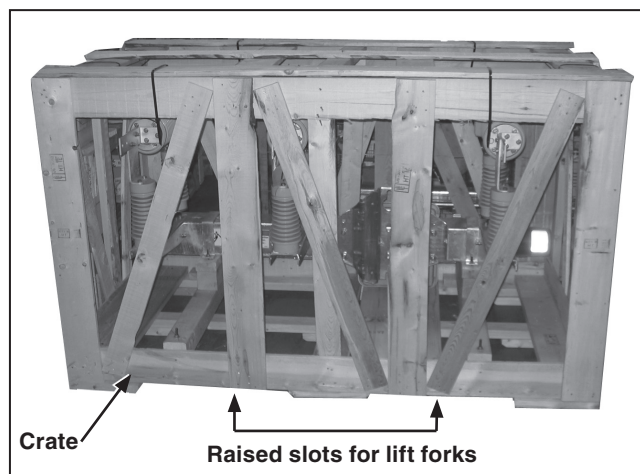

Figure 1. A Scada-Mate SD switch in its shipping crate.
STEP 1. Uncrate the switch. The crate is designed to be moved and lifted using a lift truck. Indentations on the bottom of the crate are provided for inserting the lift-truck forks. See Figure 1.